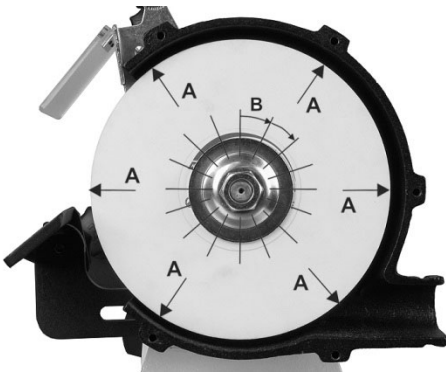

Figure 6: wheel balancing
If the outside face is not rotating concentric to arbor, try shifting the wheel closer to arbor centerline before tightening the nut. See A, Figure 6.
2. If wobble still exists, continue repeating step 1, rotating outer flange incrementally in the same direction. See B, Figure 6. Make sure to keep the wheel in the same position each time.